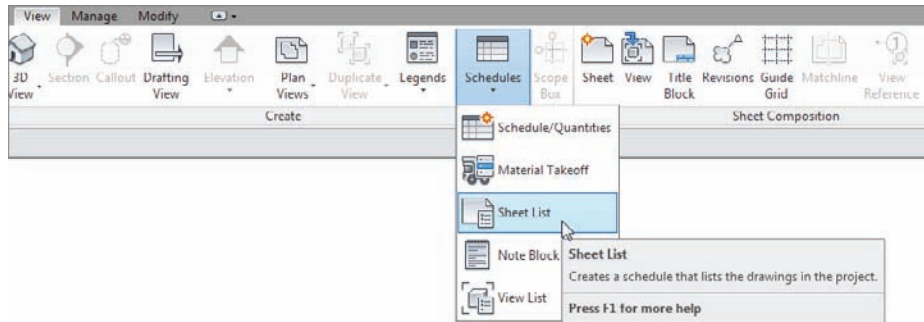

FIGURE 14.23 Selecting Schedules > Sheet List on the View tab
1. On the View tab, click Schedules > Sheet List, as shown in Figure 14.23.